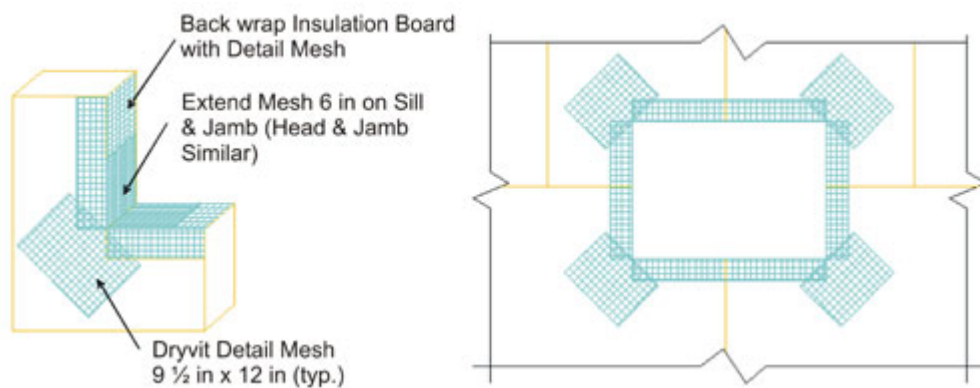

Figure 30
- a. At penetrations, align the Closure Blocks so that the edges (vertical and horizontal joints) do not coincide with the corners of the opening as illustrated in Figure 30.
18. Corners of all openings such as windows, doors, mechanical equipment and all penetrations shall be reinforced with Detail Mesh placed diagonally to the opening as illustrated in Figure 30 previously.